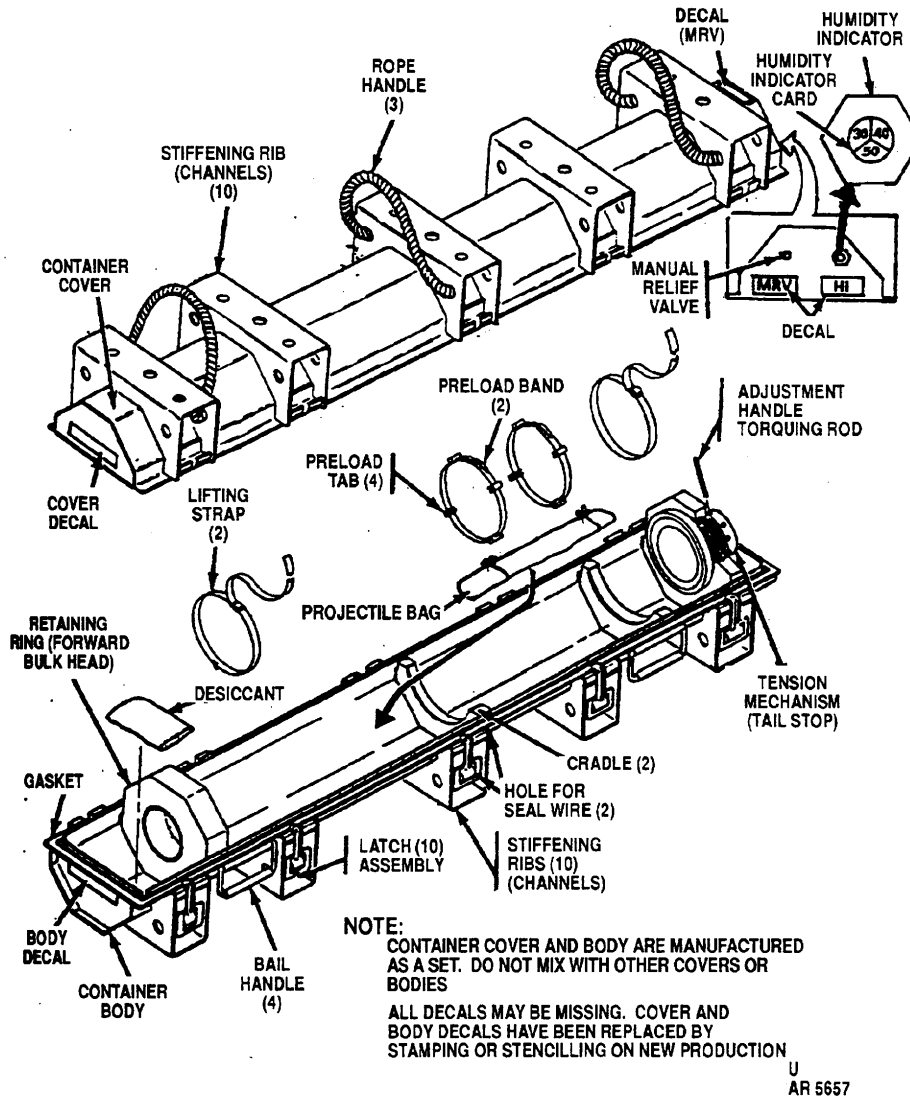

Figure 3-11. Metal Container for Copperhead Projectiles.
3.3.15 Metal Container for Copperhead Ammunition (fig. 3-11).